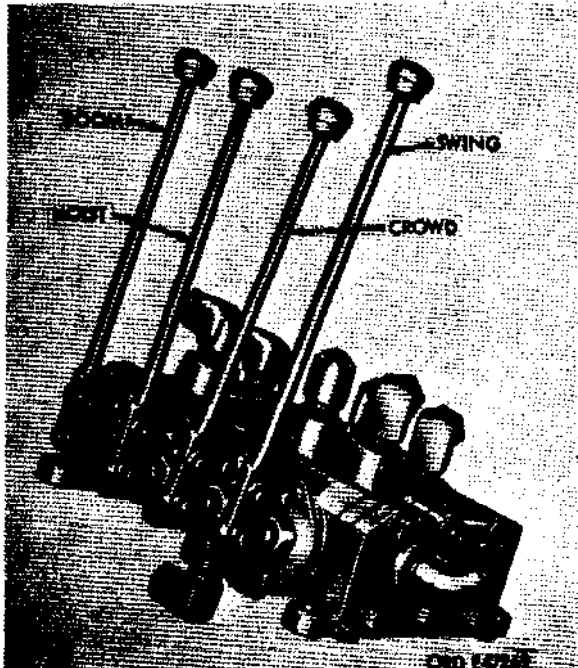

Figure 481. Control valve bank assembly
336. Control Valve Bank (Fig. 481)
- (1) General. The control valve bank assembly (fig. 481) has been carefully assembled and will require a minimum